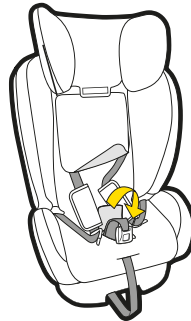

Figure 1
**Step 1:** Disengage the buckle, undo the cover flap located between the leg straps and place the buckle in the recessed section of the plastic base. Close the flap in the cover (Refer to Figure 1 & 2).